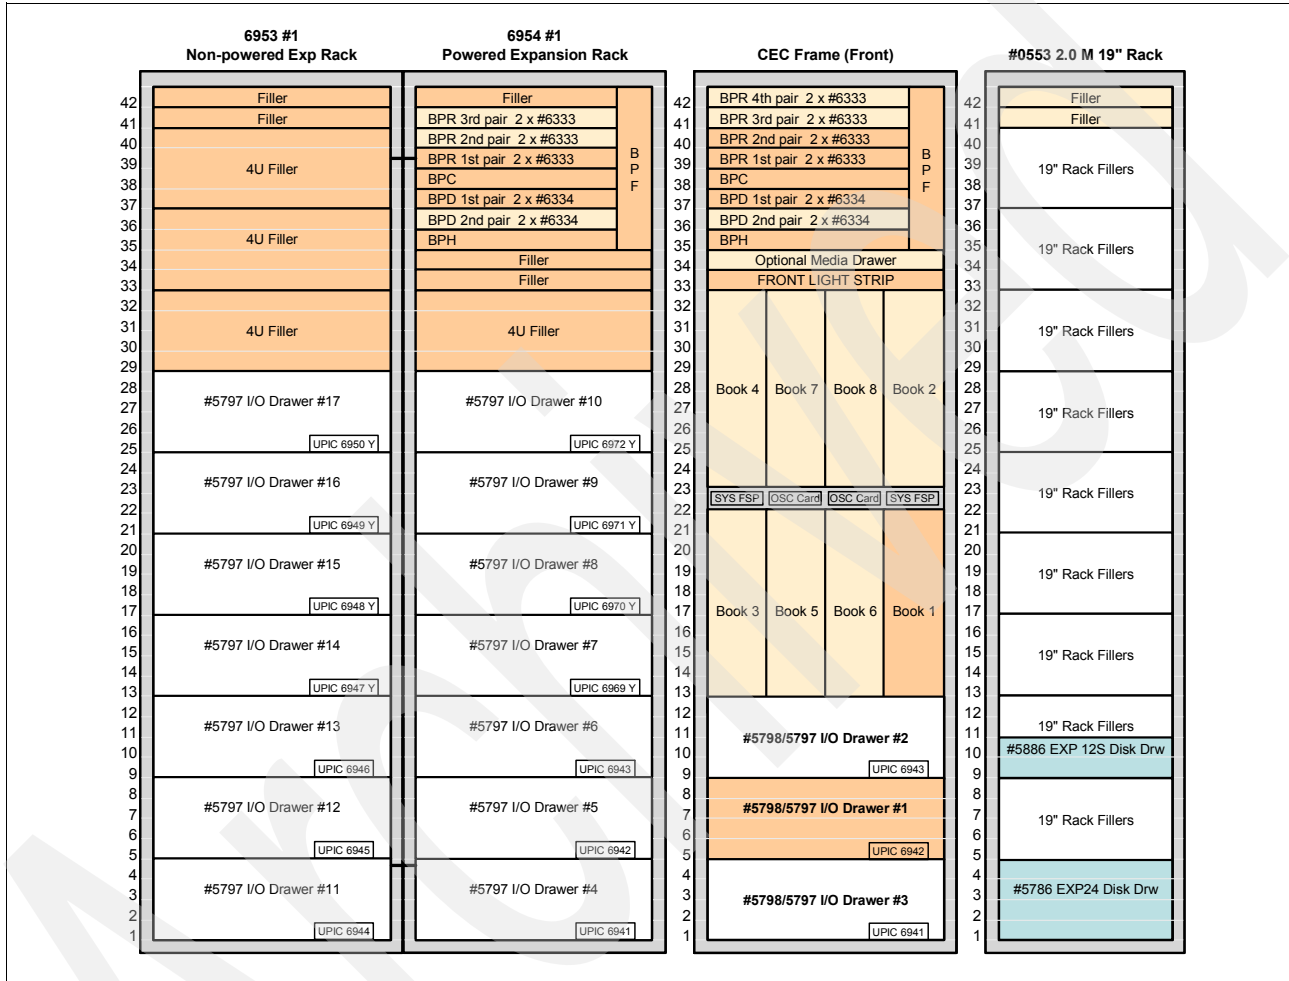
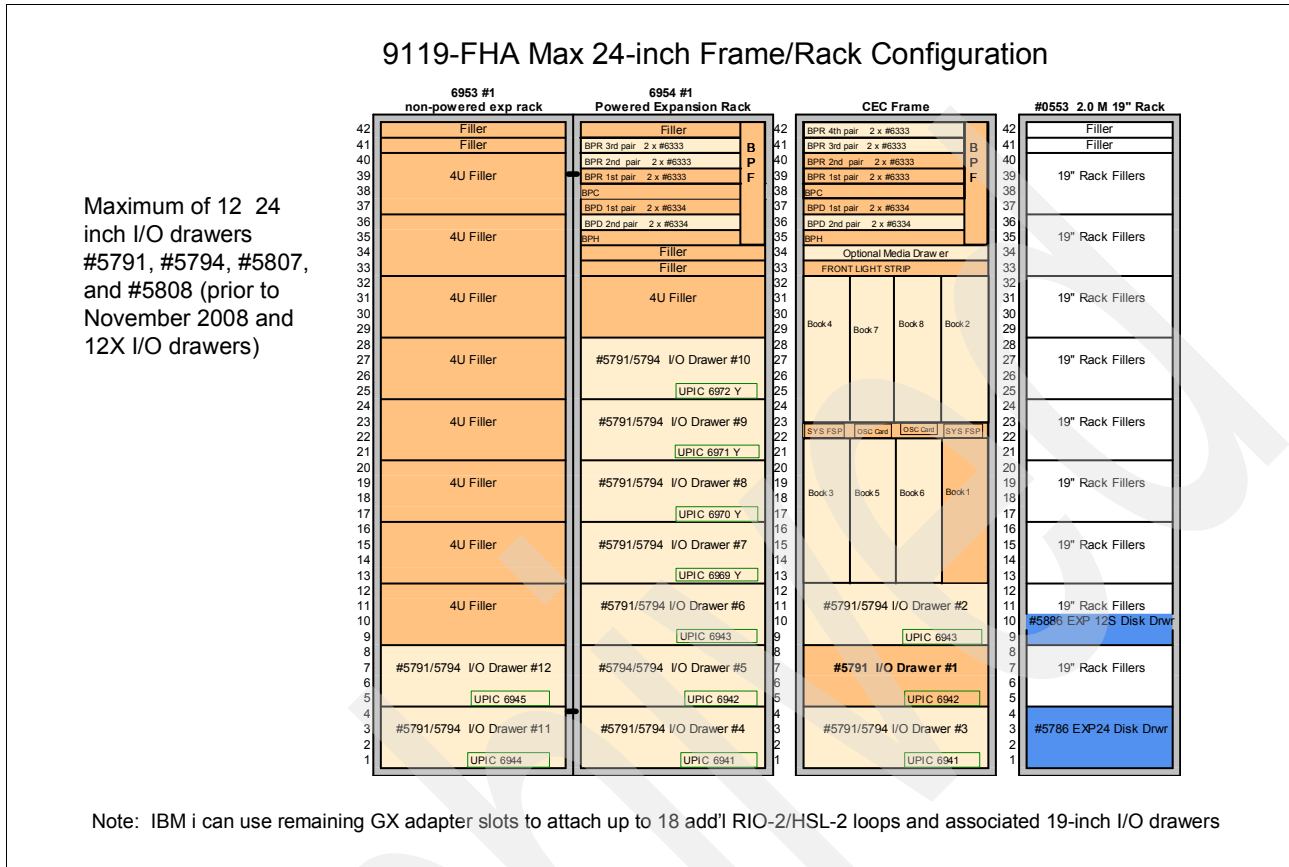
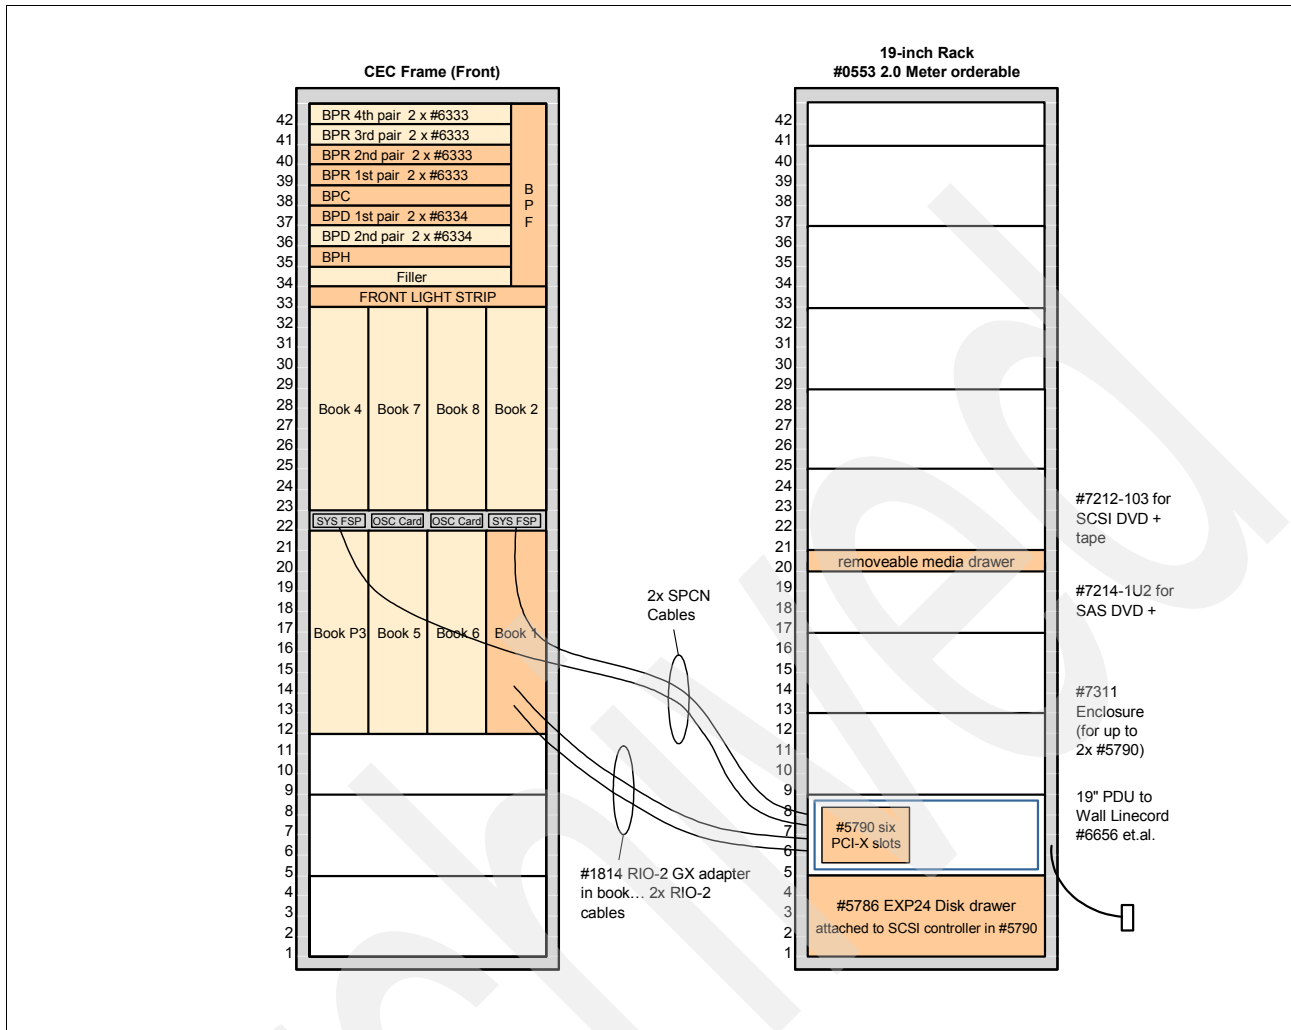

Figure 3-31 Example 9119-FHA with three 24 inch frame and racks
Figure 3-32 Example 9119-FHA with three 24 inch frame and rack prior to November 2008 availability of 12X I/O drawers
Figure 3-33 Example 595 system (CEC) frame with only a 19 inch rack containing I/O enclosure used by IBM i
- ▶ The system (CEC) frame power connects to the corresponding power connection in the top of the #6954 powered expansion racks. An IBM i configuration could include only 19 inch racks. Figure 3-33 on page 157 depicts a simplified version of that configuration.
Additional rack configurations are shown in Figure 3-31, Figure 3-32, and Figure 3-33. Note that the system CEC frame shows all three I/O drawer slots occupied.
Figure 3-32 represents a possible configuration prior to the availability of #5797 and #5798 I/O drawers, starting in November 2008.
Figure 3-33 shows a 9119-FHA system frame with only a 19 inch rack. It depicts a simplified configuration with IBM i as the primary operating system. Notes about Figure 3-33 include:
Additionally, Figure 3-33 shows: